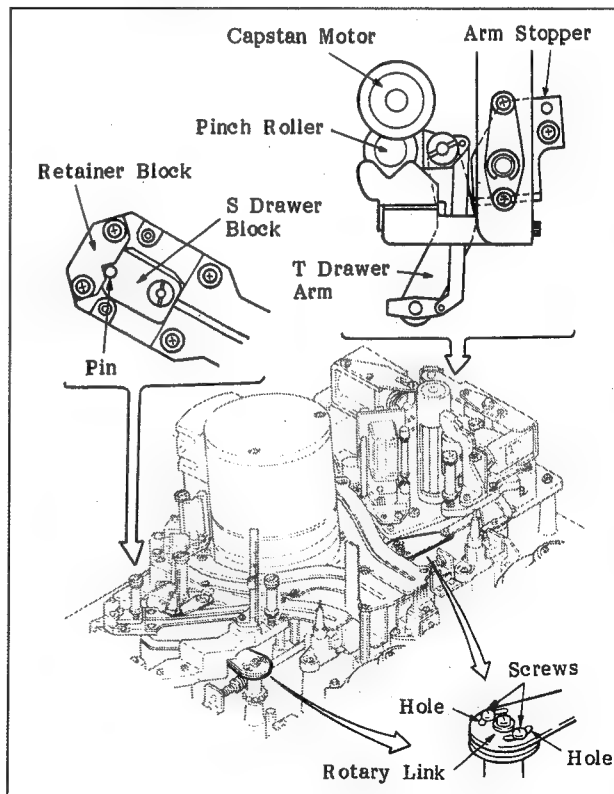

Fig. 6-98 Adjustment of the Position of the Rotary Link
- b. Press the **F3** (C), **4**, **SET**, **F6** (F), **2**, **SET**, and **<** keys on the control panel in that order to set the machine in the threading status without loading the cassette tape.
- g. Press the **F6** (F), **2**, **SET**, and **<** keys on the control panel in that order to set it in the unthreading status.
- i. Check that the S drawer block pin touches the retainer block and the T drawer arm touches the arm stopper at the same time, as shown in Figure 6-98. If they do not, loosen the two screws that hold the rotary link on the T drawer arm side and adjust the position of the rotary link.